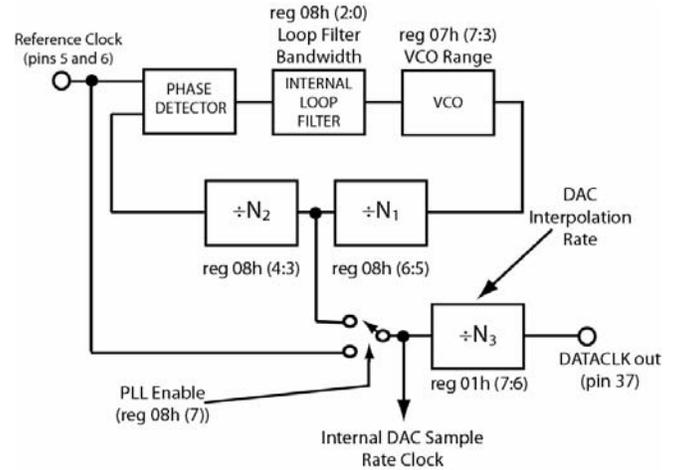

Figure 32. Internal Clock Architecture of AD9779
The internal clock architecture is shown in Figure 32. The reference clock is the differential clock at pins 5 and 6. This clock input can be run differentially, or singled ended by driving pin 5 with a clock signal, and biasing pin 6 to the mid swing point of the signal at pin 5. There are various configurations in which this clock architecture can be run;
1. PLL Enabled (reg 08h, bit 7=1) – The PLL enable switch in Figure 32 is connected to the junction of the dividers N1 and N2. Divider N3 determines the interpolation rate of the DAC, and the ratio N2/N3 determines the ratio of Reference Clock/Input Data Rate. The VCO runs optimally over the range 804MHz to 1800MHz, so that N1 is used to keep the speed of the VCO in this range, even though the DAC sample rate may be lower. The loop filter components are entirely internal and no external compensation is necessary.
2. PLL Disabled (reg 08h, bit 7=0) – The PLL enable switch in Figure 32 is connected to the Reference Clock Input. The differential reference clock input will be the DAC output sample rate and N3 will determine the interpolation rate.